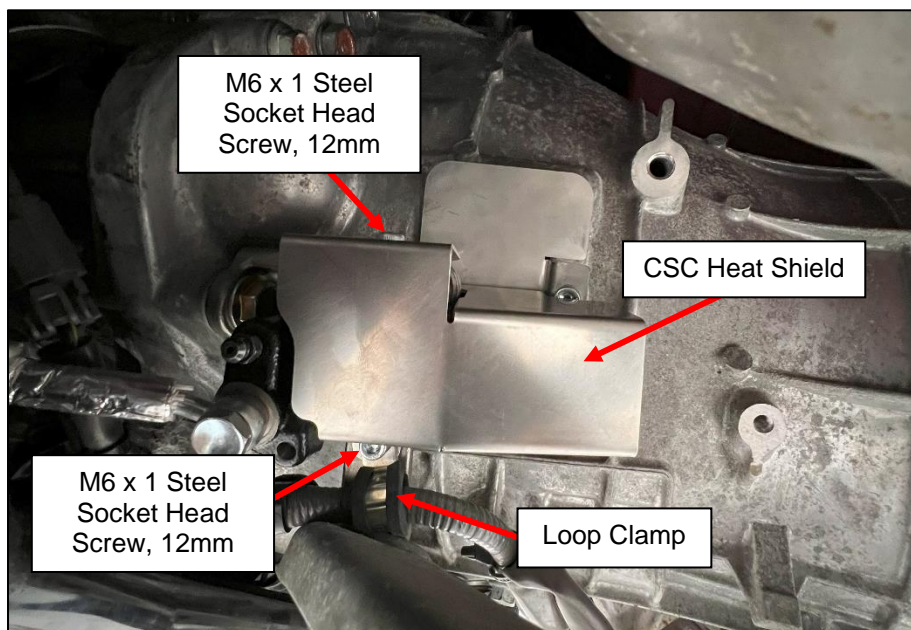

Figure 26
51. Locate the Clutch Slave Cylinder Heat Shield, Loop Clamp, and (2) two M6 x 1 Steel Socket Head Screws, 12mm. Position the Heat Shield over the Clutch Slave Cylinder. Install (1) one M6 Screw on top of the Heat Shield into the Clutch Slave Cylinder Bracket. Place the Loop Clamp over the lower mounting hole of the Heat Shield and install (1) one M6 Screw. *Figure 26*. The Loop Clamp will hold the wiring harness removed when pulling the transmission. Torque M6 Screws to 80 in-lbs.